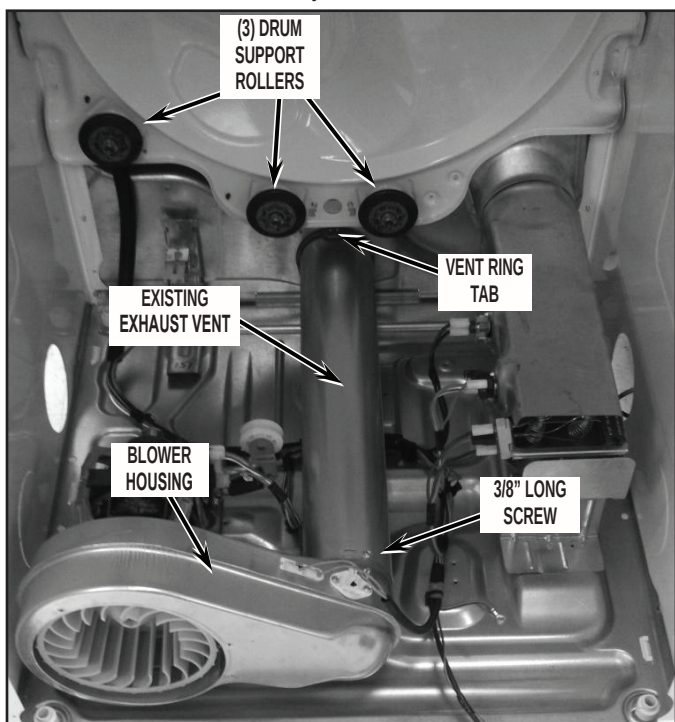
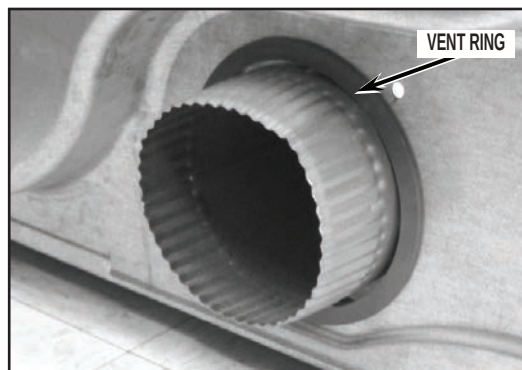

FIGURE 10 (ELECTRIC DRYER SHOWN)
FIGURE 11
13. Remove the existing exhaust vent by removing one (1) 3/8" long screw that secures the vent to the blower housing outlet. See *Figure 10*.
14. Remove the vent ring by depressing the three (3) tabs on the ring (See *Figure 10*) and push ring out away from dryer rear panel. See *Figure 11*.